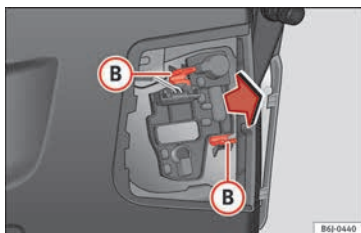

Fig. 114 Removing the bulb holder.
- Remove the bulb holder by pressing the fastening clips **B** » Fig. 114 and pulling outwards.